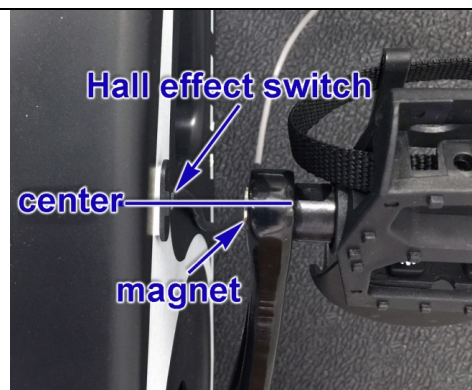

Figure 5
- The Hall Effect Switch can be securely mounted to the frame or chain cover such that the magnet will pass by the center of the switch (Figure 5).